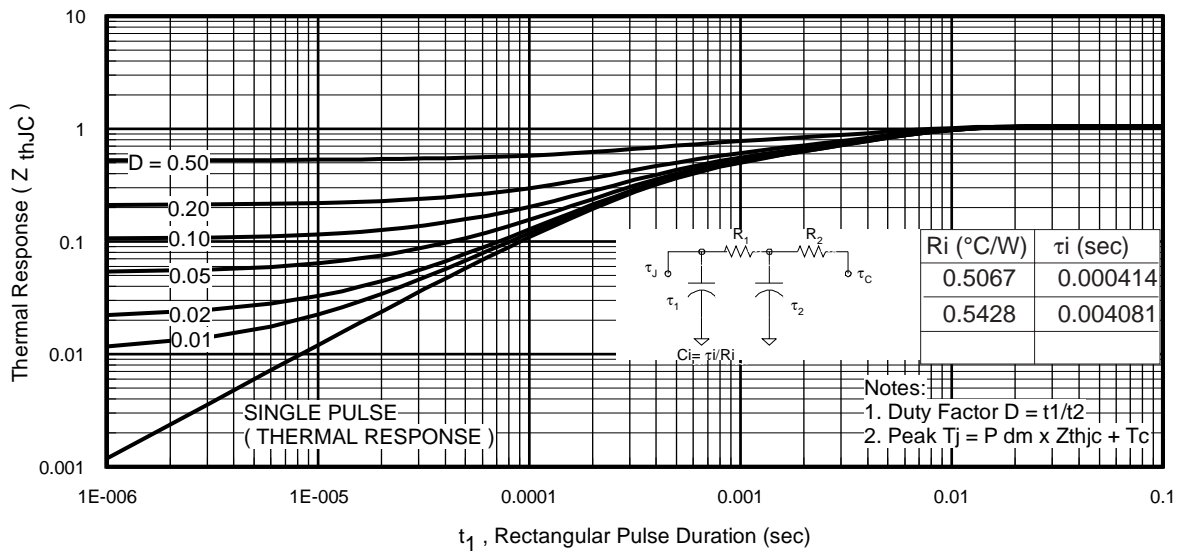
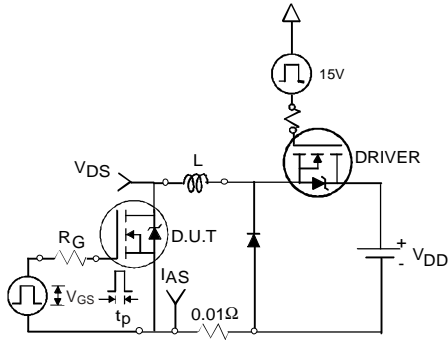

Fig 11. Maximum Effective Transient Thermal Impedance, Junction-to-Case
Fig 12a. Unclamped Inductive Test Circuit
| I_{AR} | Avalanche Current ① | See Fig.12a, 12b, 15, 16 | A |
3. Equation below based on circuit and waveforms shown in Figures 12a, 12b.
$Z_{thJC}(D, t_{av})$ = Transient thermal resistance, see figure 11)
- ① Repetitive rating; pulse width limited by max. junction temperature. (See fig. 11).
- ② Limited by T_{Jmax} , starting $T_J = 25^\circ\text{C}$, $L = 0.16\text{mH}$, $R_G = 25\Omega$, $I_{AS} = 42\text{A}$, $V_{GS} = 10\text{V}$. Part not recommended for use above this value.
- ③ Pulse width $\leq 1.0\text{ms}$; duty cycle $\leq 2\%$.
- ④ C_{oss} eff. is a fixed capacitance that gives the same charging time as C_{oss} while V_{DS} is rising from 0 to 80% V_{DSS} .
- ⑤ Limited by T_{Jmax} , see Fig.12a, 12b, 15, 16 for typical repetitive avalanche performance.
- ⑥ This value determined from sample failure population. 100% tested to this value in production.
- ⑦ When mounted on 1" square PCB (FR-4 or G-10 Material). For recommended footprint and soldering techniques refer to application note #AN-994